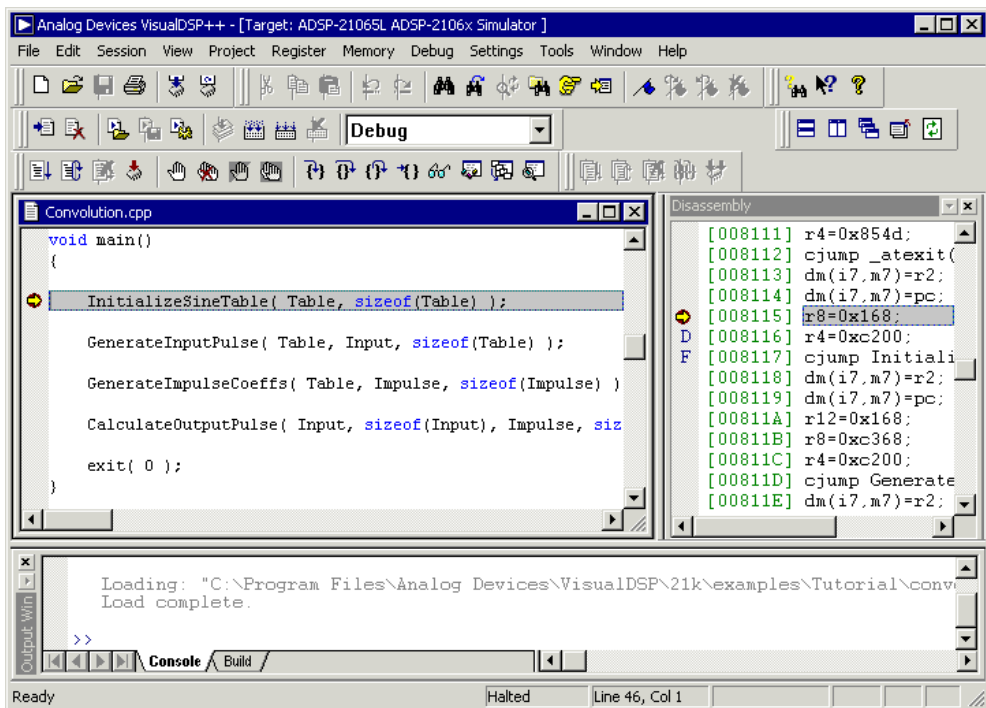

Figure 2-24. Loading the Convolution Program
- e. Double-click `convolution.cpp` to display the file in an editor window, as shown in Figure 2-24.